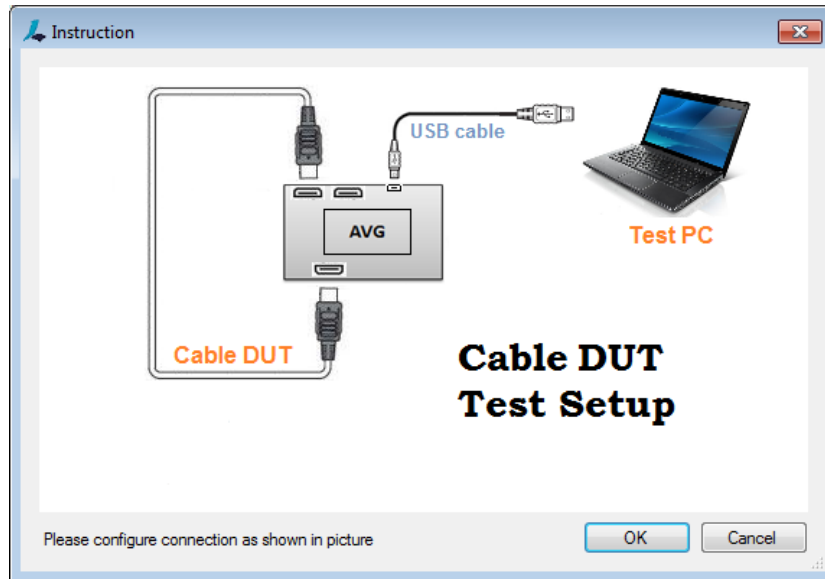

Figure 4.12. Cable DUT Test Setup
5. A dialog pops up (Figure 4.12) asking you to connect the cable device to the AVG platform. After the connections are set up, click OK.